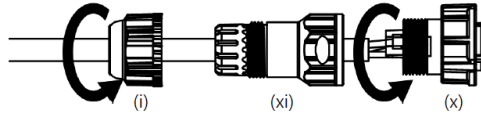

Figure 57: Step 5
- Screw the sealing nut (i) and the assembled housing (x) onto the assembled sealing body (xi) with a torque force of 8–10 kgf-cm (Figure 57).